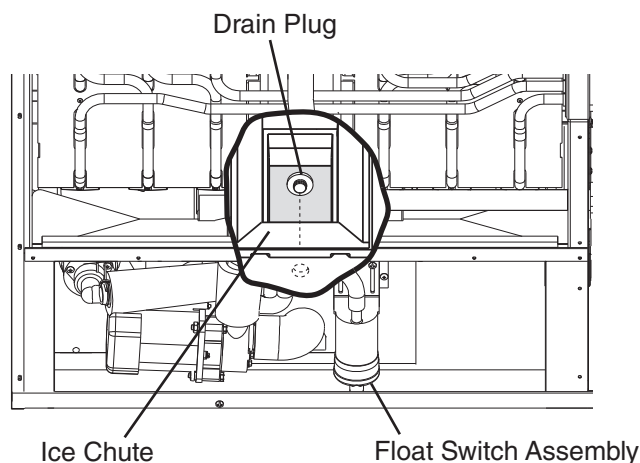

Fig. 19
- 7) Remove the insulation panel. Remove the drain plug located on the lower front part of the ice chute. See Fig. 19. Allow the water tank to drain.
- 5) Remove the drain plug located on the lower front part of the ice chute. See Fig. 19. Allow the water tank to drain.